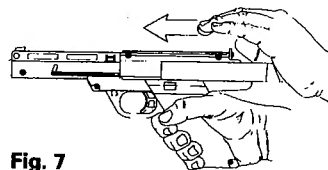

Fig. 7
- Push the slide in until you hear a second "click" and it locks in place. The air pistol is now cocked and ready to fire. (Fig 7)